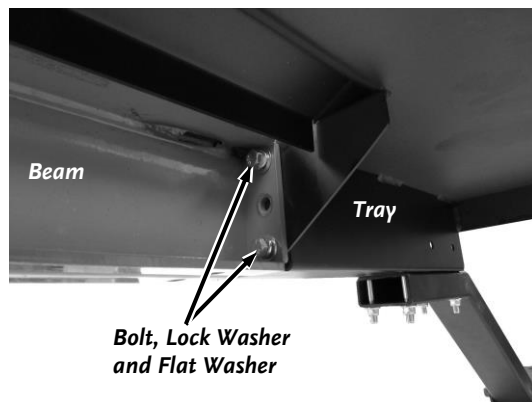

Figure 7
6. Install the four Bolts, Lock Washers and Flat Washers (from the tray kit) to secure the Tray to the end of the Beam using a 9/16" Wrench (**Figure 7**).